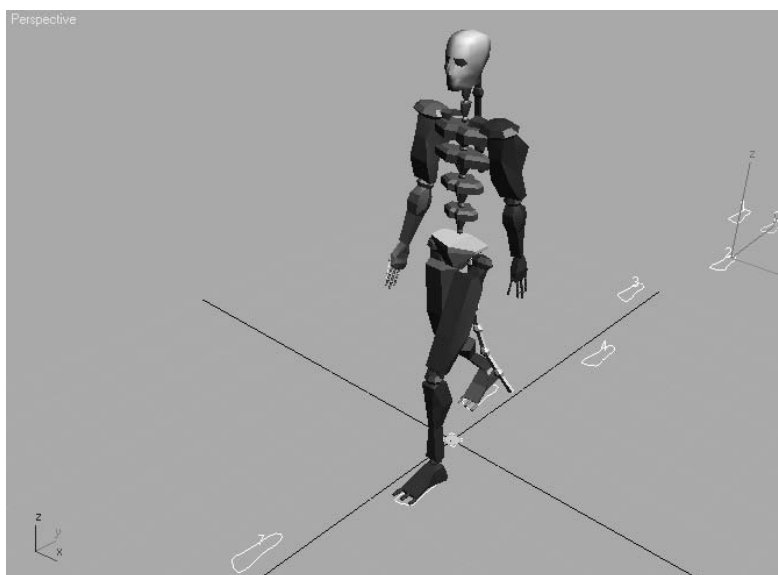

Figure 9.9
- Click the Play Animation button again. This time the biped will appear to be walking in place while the footsteps move underneath it, as shown in Figure 9.9.